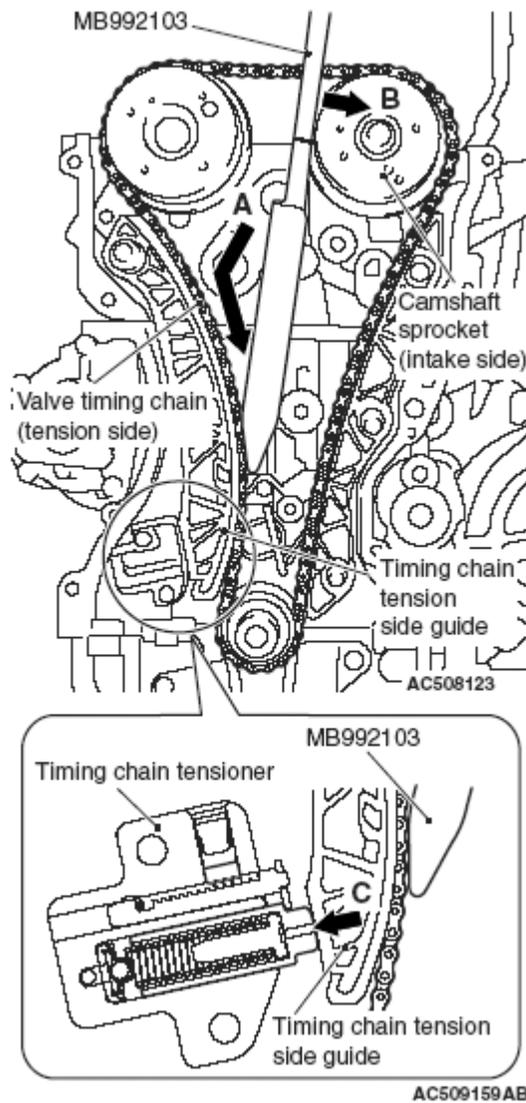

Fig. 38: Inserting Special Tool MB992103
2. With the timing chain tensioner unlocked, insert special tool MB992103 inside the timing chain case assembly along the tension side of the timing chain until the insertion guide line aligns with the upper surface of the timing chain case assembly ("A" in Fig. 38.)
NOTE: With the timing chain tensioner unlocked, insert the special tool MB992103 along the tension side of the timing chain, according to the special tool MB992103 top shape. The special tool MB992103 can be inserted smoothly to the position where the special tool MB992103 insertion guide line aligns with the timing chain case assembly top surface ("B" in Fig. 38), and the spread timing chain tension side guide can be held ("C" in Fig. 38.)